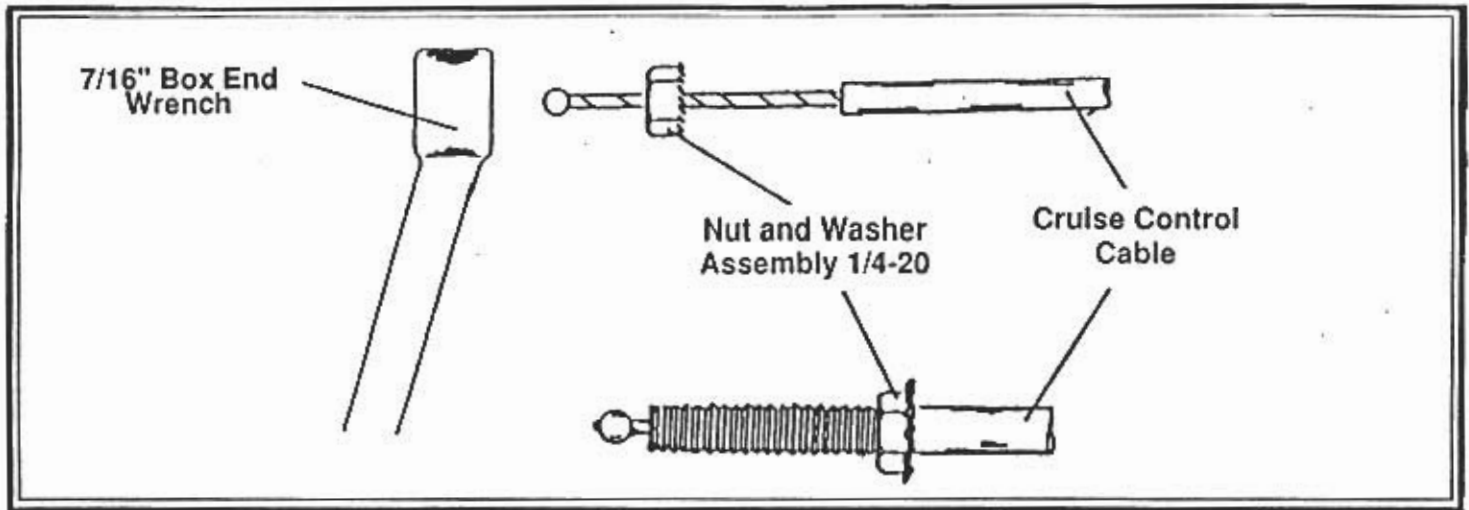

FIGURE 2 - After Threading Cable
5. To use that Snap-In adaptor, it will be necessary to form threads on the end of the Cruise Control Cable. This is accomplished by placing the 1/4"-20 Nut and Washer Assembly on the end of the Cruise Control Cable with your fingers, then use a 7/16" box end wrench and turn clockwise, until the desired amount of threads have been formed as shown in Figure 2.